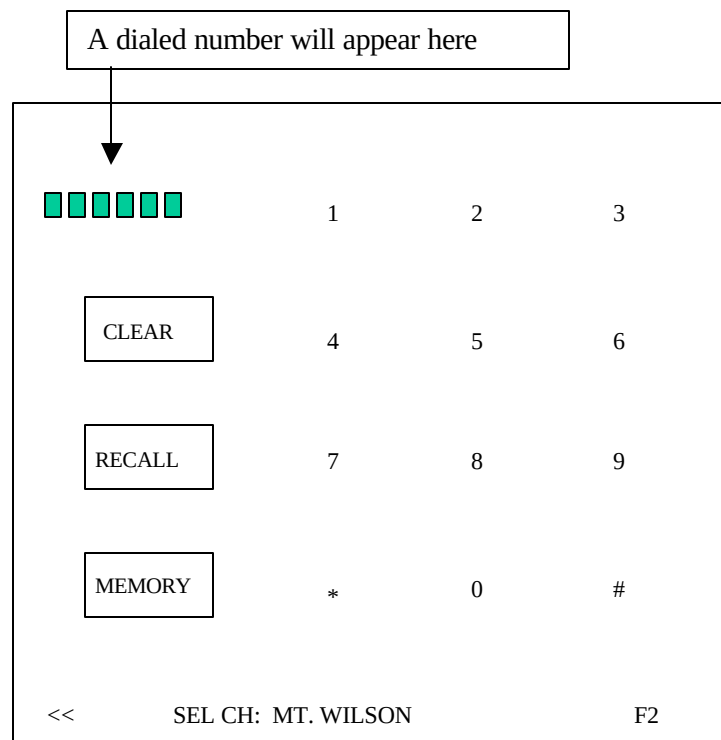

Figure 4.4 Manual Dial Keypad Screen
**DIAL:** This function is the doorway into the DTMF dialing screen. When touched, the display changes to the manual dial keypad screen (Figure 4.4). Here the user can generate DTMF over the air on tone lines or manually dial a phone number for the DLM or PLM lines.
On the Manual Dial Screen, pushing "<<" returns the display back to the main menu, pressing memory dial brings up the Speed-Dial Screen (Figure 45) for calling any one of sixteen preset numbers on either a DLM or PLM line. In the Speed-Dial Screen, touching "<<" toggles the user back to the manual dial screen (Figure 4.4). Touching "MORE" brings up the next speed dial screen (speed dial presets 09 through 16) as shown in (Figure 4.6).